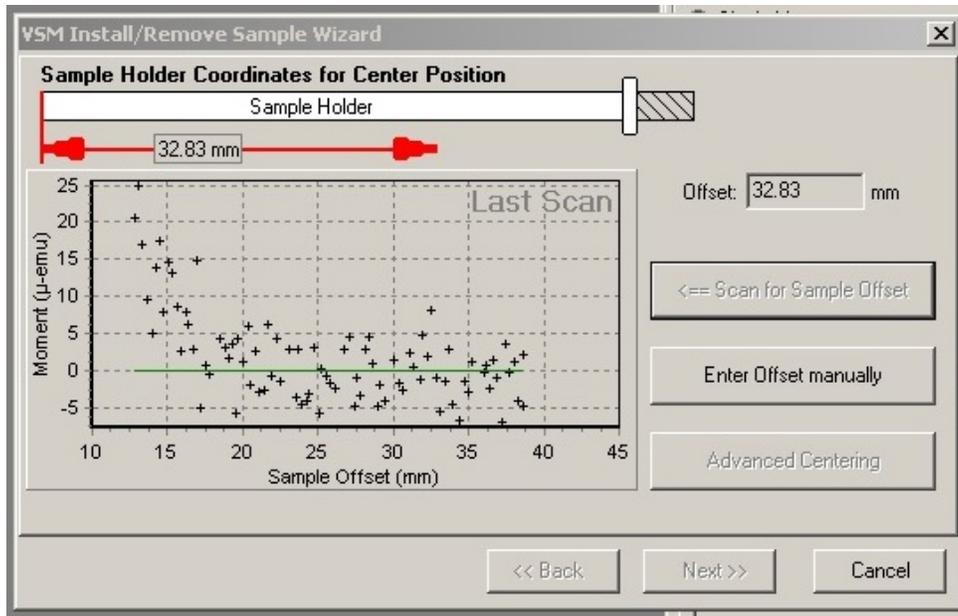

Figure 7. Sample centering scan dialog.
4) Clicking "Next" again will bring you to the sample centering dialog (Figure 7). Since this is only a measurement of your mounting adhesive, we will choose a high field to determine what the maximum contribution might be. Feel free to set the field between 1-3 T (or 10,000-30,000 Oe).